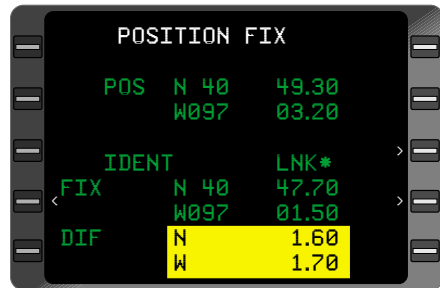

Figure 3-182
9. **ENTER** Key - DEPRESS. The **DIF** display shows the direction and distance in degrees, minutes, and hundredths of minutes from the **FIX** position to the composite position. (Figure 3-182)